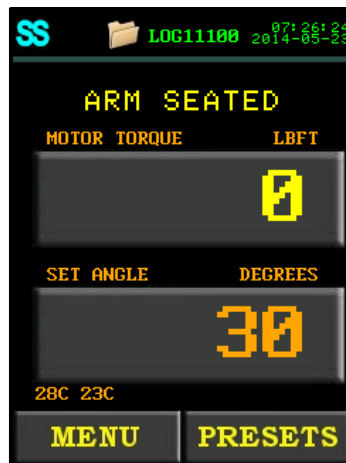

Figure 5.3-1: Arm Seated Message
**Result:** Arm Seated will be displayed on the Main Screen as shown in Figure 5.3-1.